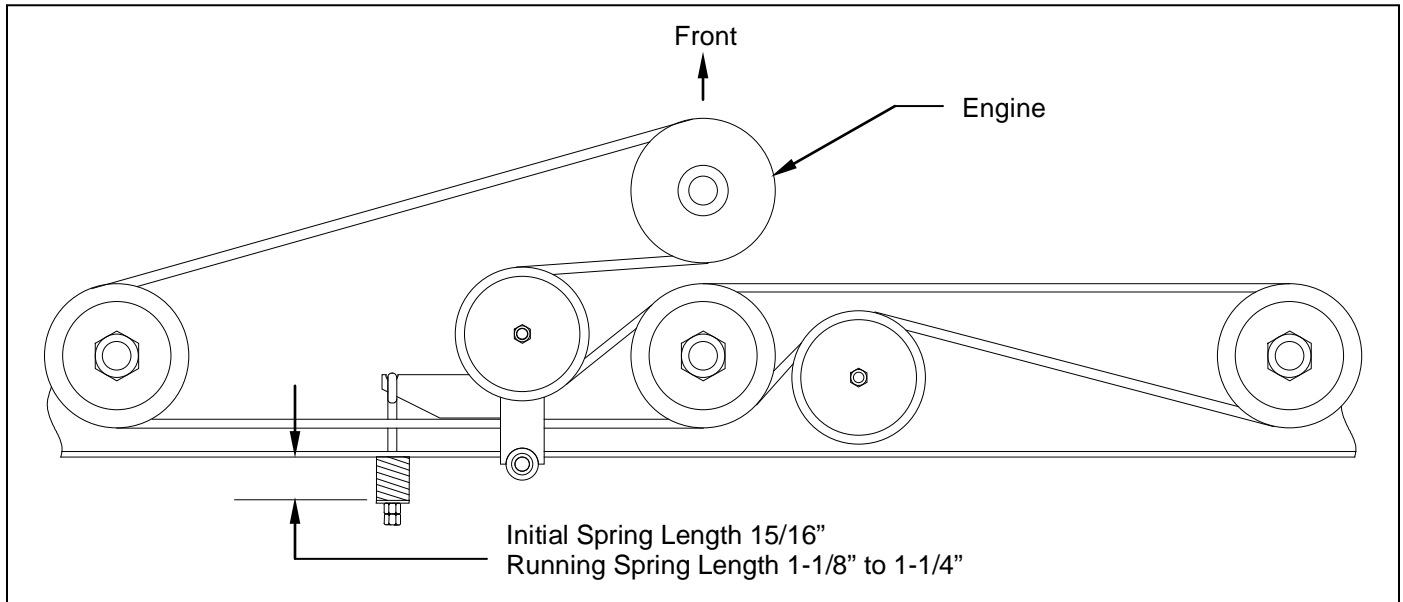

Figure 9: Belt Pattern and Spring Adjustment (Model C60BE)
**Model C60BE: – See Figure 9.**